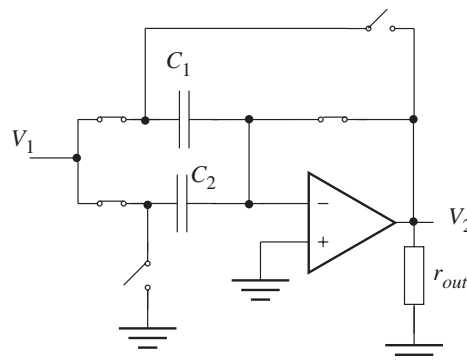

Figure 4.1 A switched capacitor circuit.
a) Derive the transfer function of the switched capacitor circuit shown in Figure 4.1, i.e. $V_2(z)/V_1(z)$. Assume that the operational transconductance amplifier is ideal. (3p)